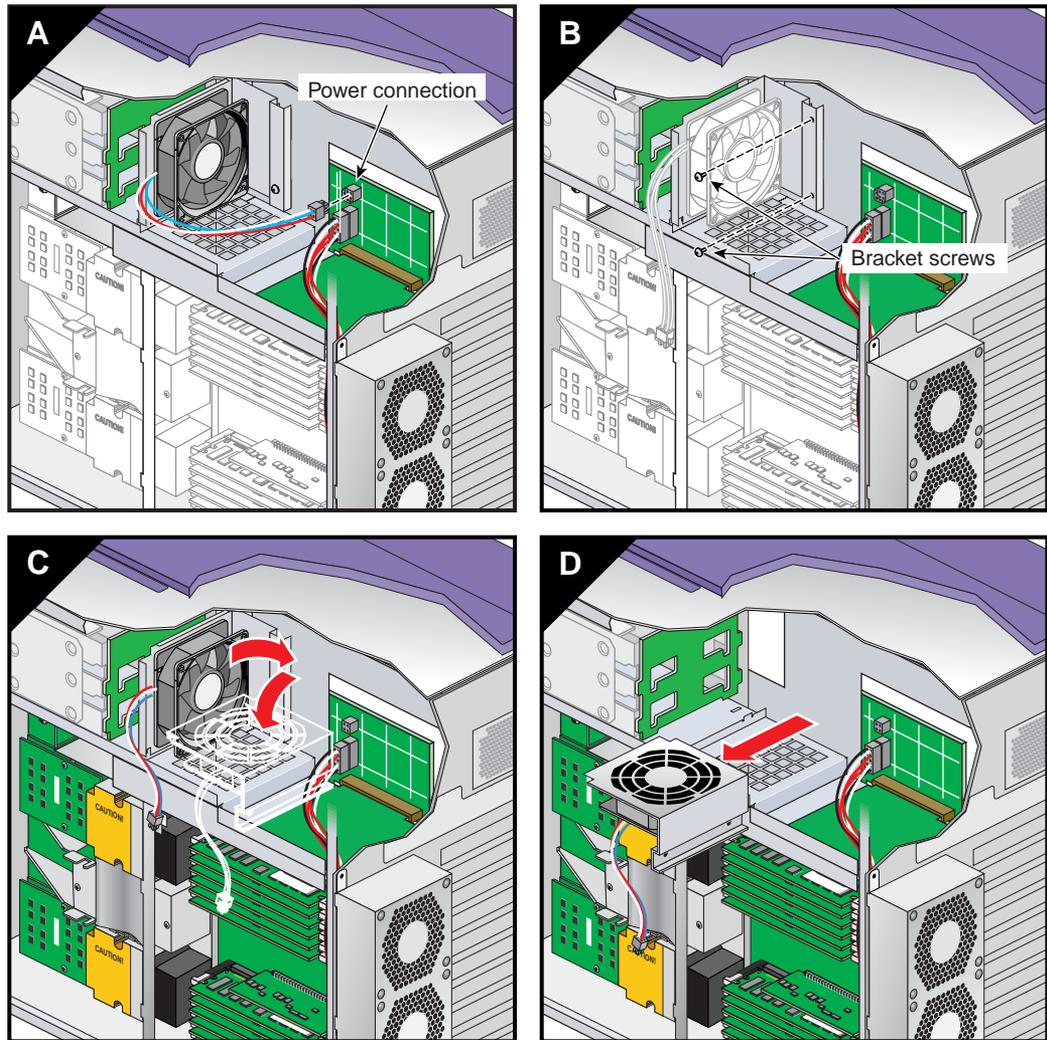

Figure 3-30 Removing the Hard Disk Drive Fan
1. Disconnect the disk drive fan power cable from the interface board. Then remove the screws that secure the disk drive fan to the enclosure (see Figure 3-30).
2. Carefully remove the fan from the enclosure (see Figure 3-30).